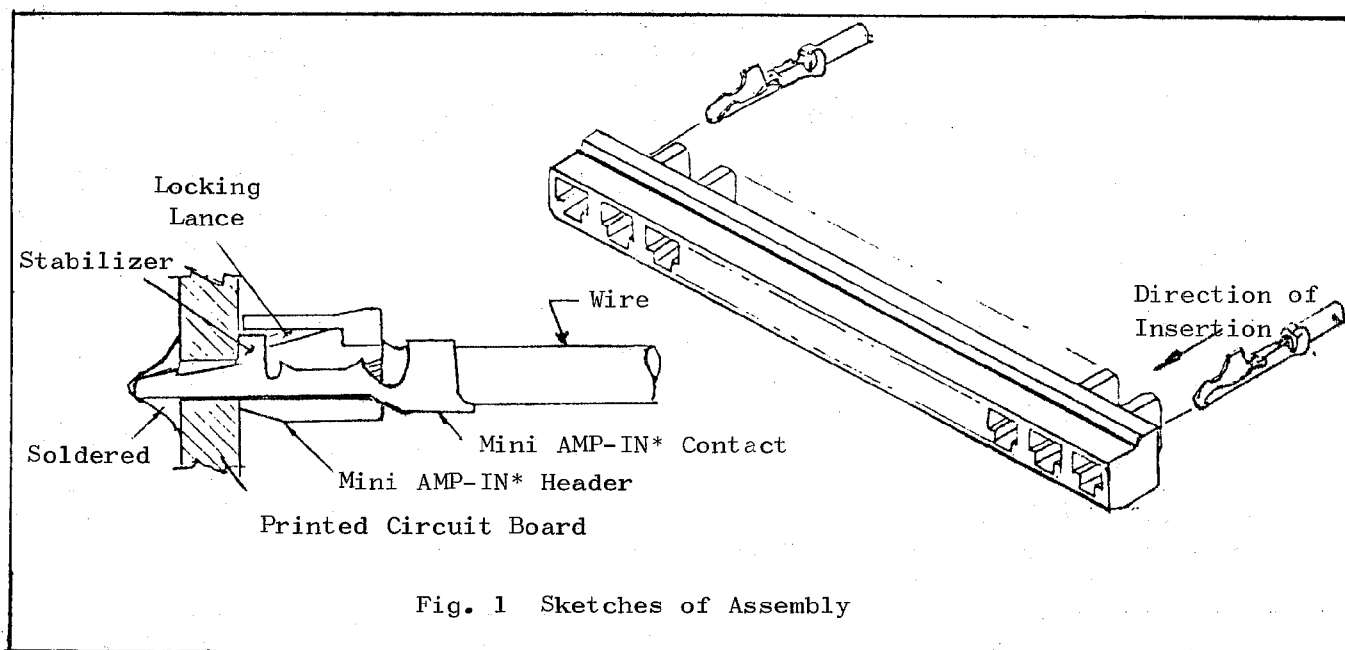

Fig. 1 Sketches of Assembly
- 2.1 When to insert contacts into the header, they must be oriented to the header as shown in Fig. 1, so that they can enter straight to pass through into the cavity freely without any force applied.
- a) You must not insert a contact in directions other than shown in Fig. 1. Forced insertion may cause the contact to distort.